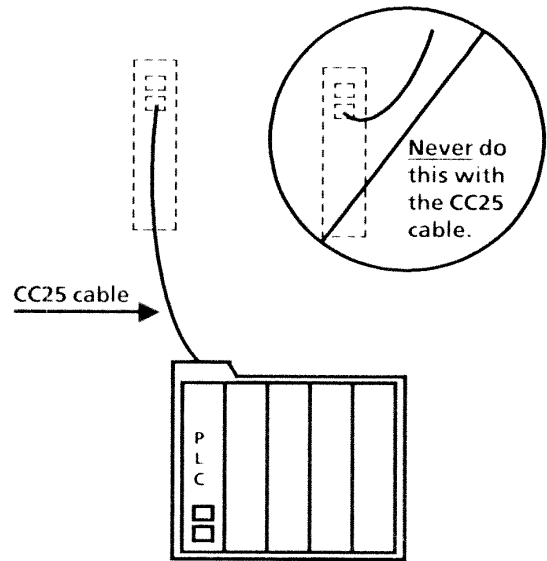

Figure 3-8 Proper CC25 Cable Orientation
- Make sure that the CC25 cable is always routed in the **downward** direction from the P2 connector toward the rack. Mount the power supply above the rack to which it will supply power (see Figure 3-8).